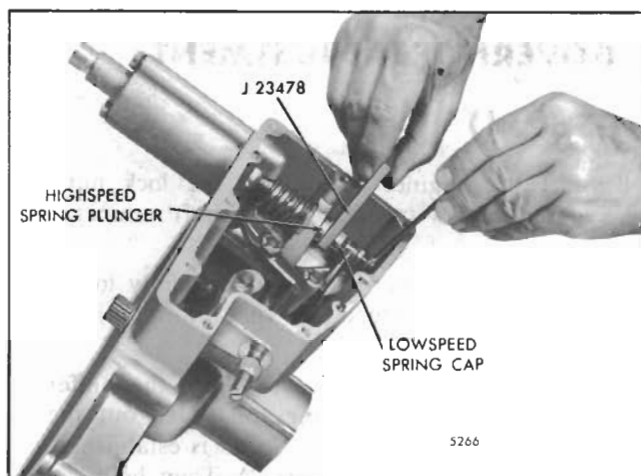

Fig. 2 - Adjusting Governor Gap (Single-Weight Governor)
7. Check the gap (.200") between the low-speed spring cap and the high-speed spring plunger with gage J 23478 as shown in Fig. 2.